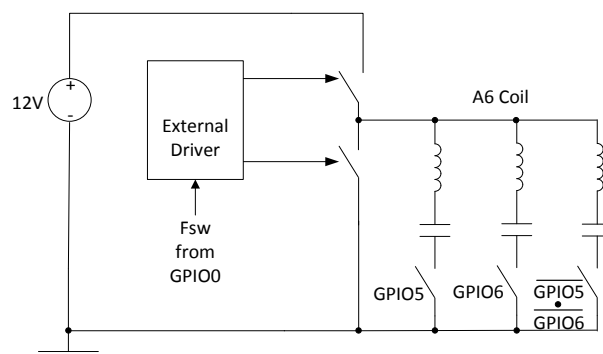
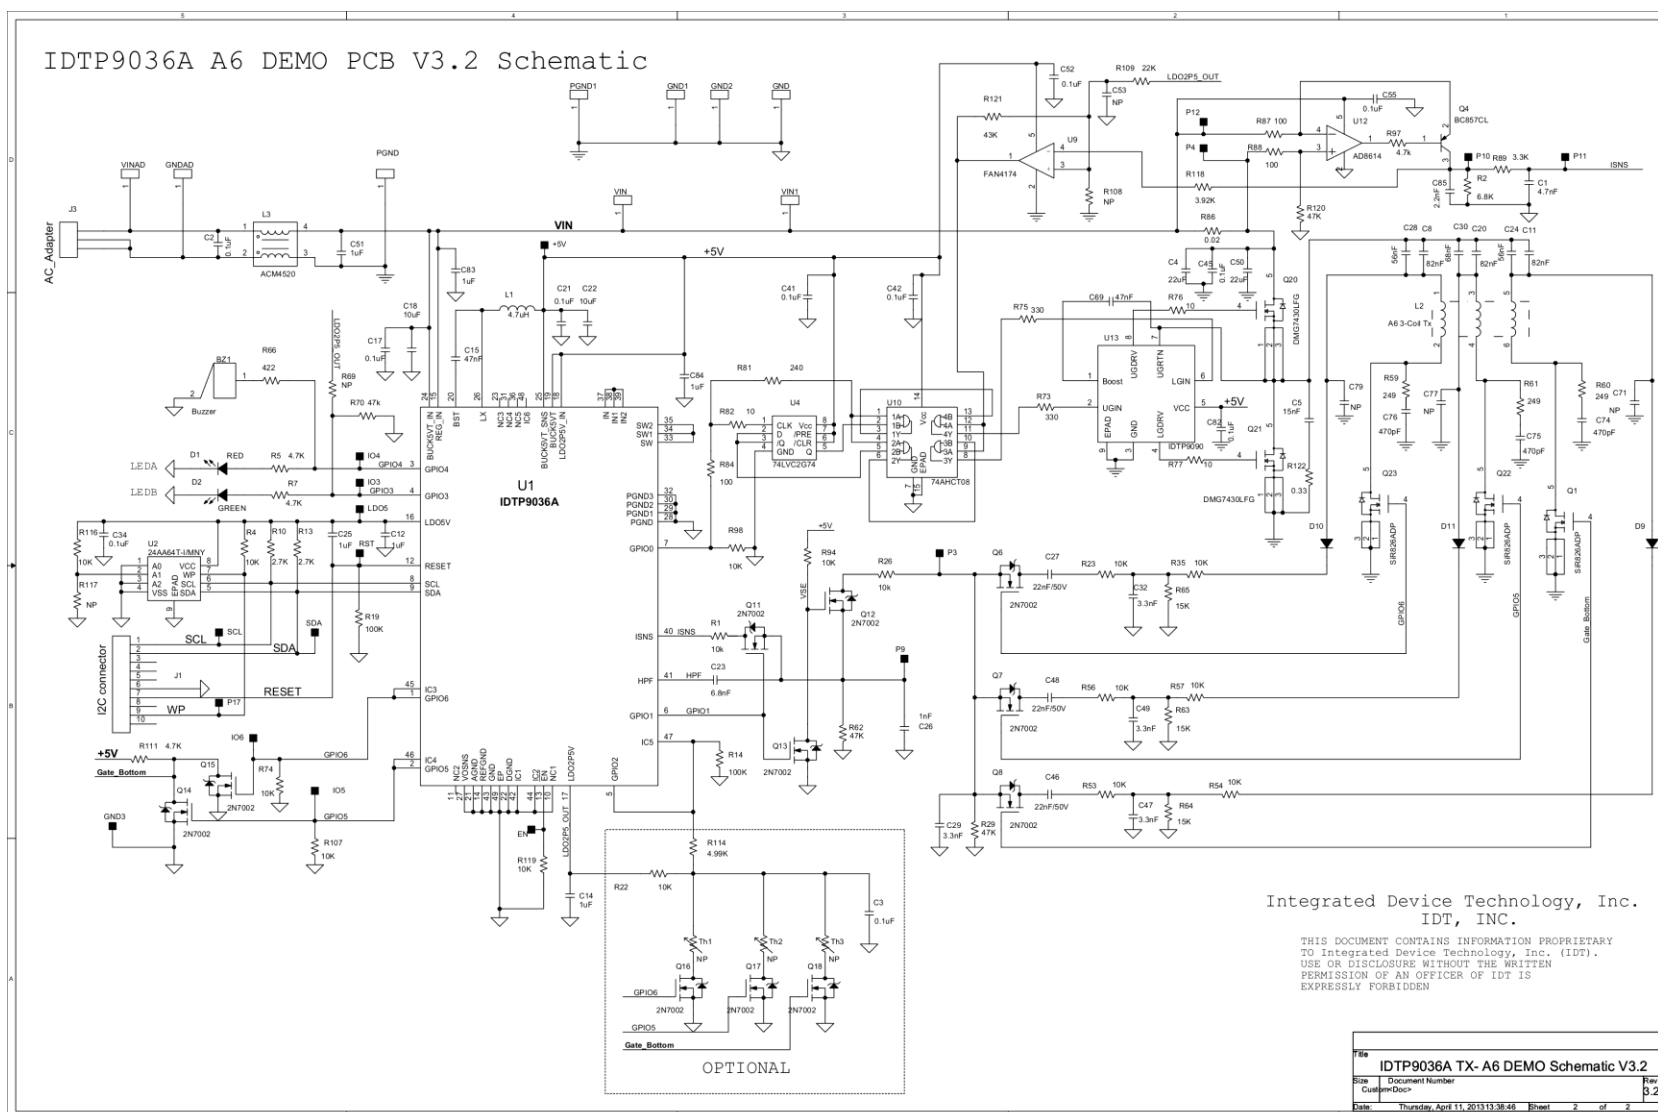

Figure 9. Half Bridge inverter TX Coil Driver.
Figure 11. IDTP9036A WPC “Qi” Compliance Low-cost Schematic (See IDTP9036A Evaluation Kit User Manual for complete details and optional components.)
The recommended applications schematic diagram is shown in Figure 11. The IDTP9036A operates from a 12V_{DC} (±5%) input. The switching frequency varies from 115kHz to 205kHz. At the 205kHz limit the duty cycle is also variable. The power transfer is controlled via changes in switching frequency and duty cycle. The base or TX-side has three series-resonance circuits made of a WPC Type-A6 triple coil and three capacitors. Two of the coils are 11.5μH each, and the other one is 12.5μH, each with a series resonant capacitor (~133nF or 147nF). The resonant circuits are driven by an external half-bridge inverter, as shown in Figure 9. Only the resonant circuit that is aligned with a receiver coil gets a complete path from the inverter output to power ground. The selection is made by voltage levels from GPIO5 and GPIO6, each of which drives a selection FET directly and drives an input of a wired-NAND circuit that activates or de-activates the third resonant circuit.
7). A complete design schematic compliant to the WPC “Qi” standard is given in Figure 11. It includes WPC “Qi” LED signaling, buzzer, and an EEPROM for loading IDTP9036A firmware.